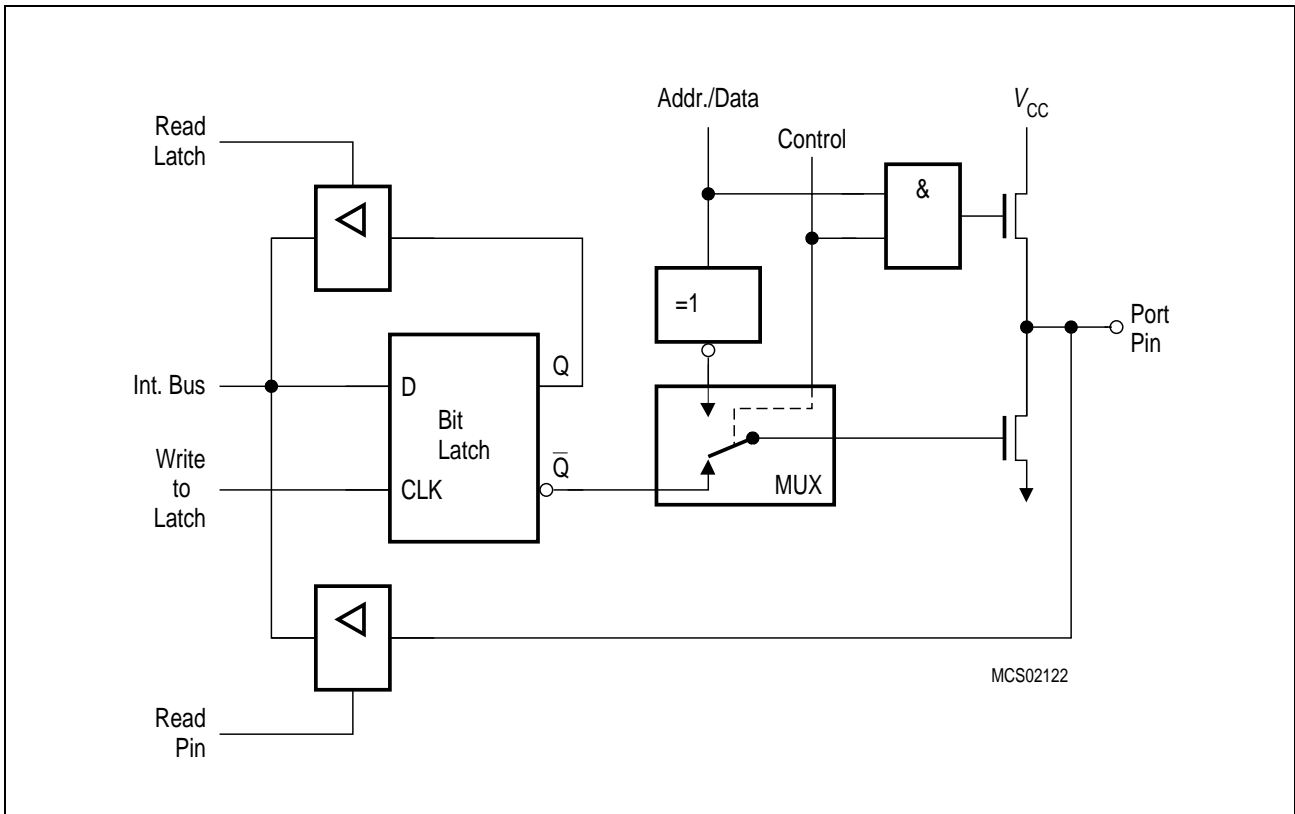
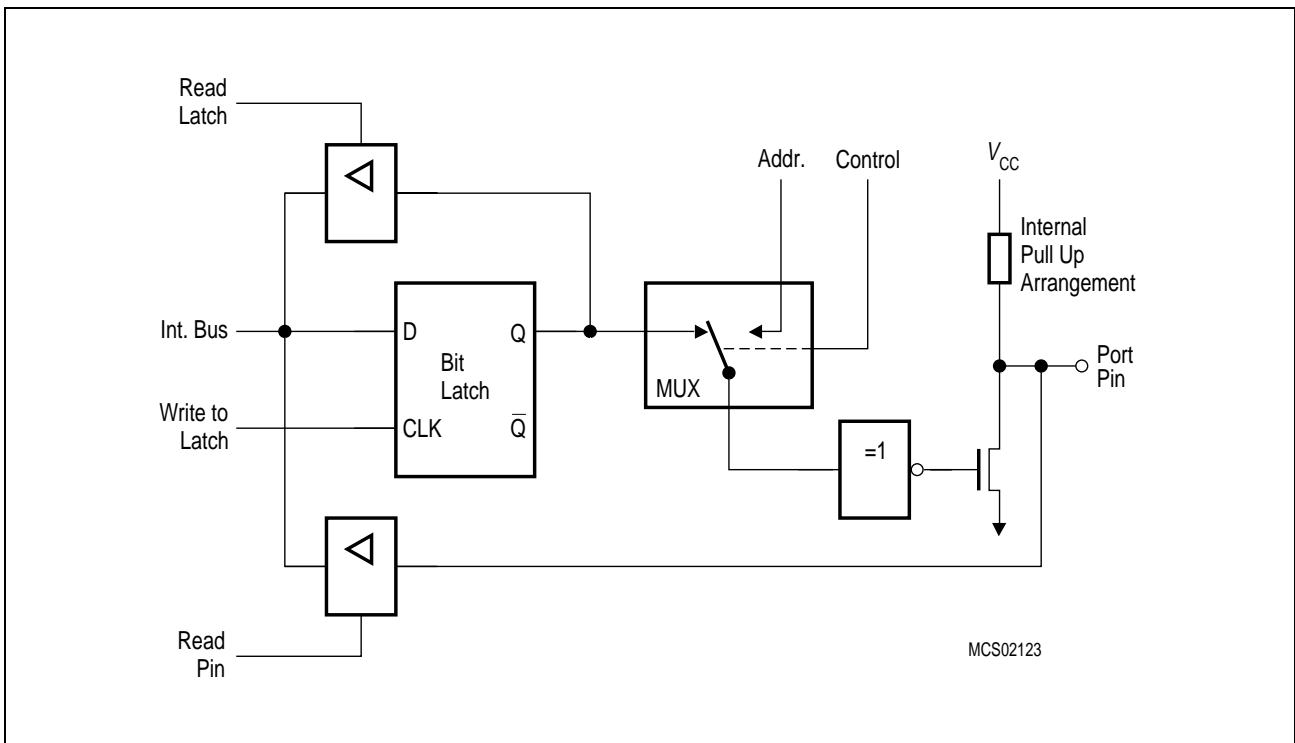

Figure 6-7
Figure 6-8
Port 0, in contrast to ports 1, 2 and 3, is considered as “true” bidirectional, because the port 0 pins float when configured as inputs. Thus, this port differs in not having internal pullups. The pullup FET in the P0 output driver (see **figure 6-7**) is used only when the port is emitting 1s during the external memory accesses. Otherwise, the pullup is always off. Consequently, P0 lines that are used as output port lines are open drain lines. Writing a “1” to the port latch leaves both output FETs off and the pin floats. In that condition it can be used as high-impedance input. If port 0 is configured as general I/O port and has to emit logic high-level (1), external pullups are required.
As shown in **figure 6-7** and below in **figure 6-8**, the output drivers of ports 0 and 2 can be switched to an internal address or address/data bus for use in external memory accesses. In this application they cannot be used as general purpose I/O, even if not all address lines are used externally. The switching is done by an internal control signal dependent on the input level at the \overline{EA} pin and/or the contents of the program counter. If the ports are configured as an address/data bus, the port latches are disconnected from the driver circuit. During this time, the P2 SFR remains unchanged while the P0 SFR has 1's written to it. Being an address/data bus, port 0 uses a pullup FET as shown in **figure 6-7**. When a 16-bit address is used, port 2 uses the additional strong pullups p1 to emit 1's for the entire external memory cycle instead of the weak ones (p2 and p3) used during normal port activity.